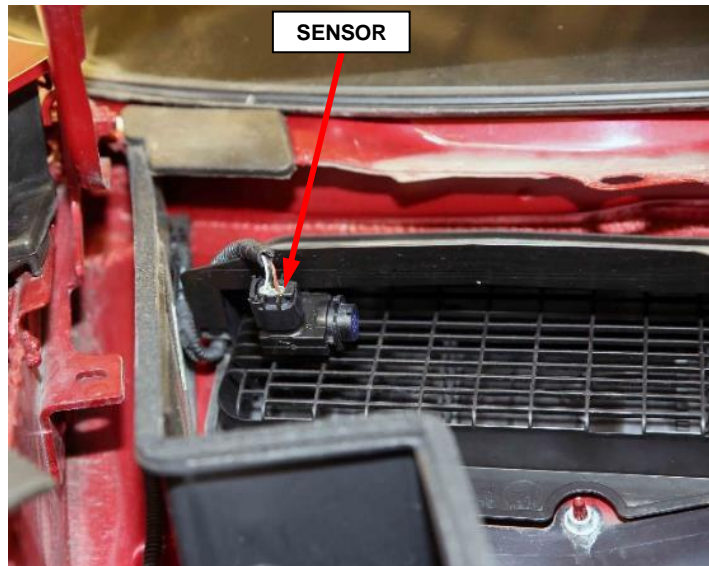

Figure 29 – Air Quality Sensor
34. If equipped, disconnect the exterior air quality sensor electrical connection (Figure 29).
92. If equipped, connect the outside air quality sensor electrical connection (Figure 29).